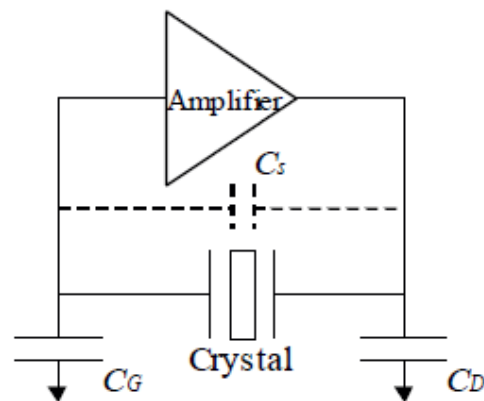

Figure 2 – Simple Pierce Oscillator
Consider the simple Pierce oscillator consisting of a crystal, an amplifier, and gate and drain capacitors as shown in Figure 2.
3. A stray capacitance C_s shunting the crystal as shown in Figure 2.